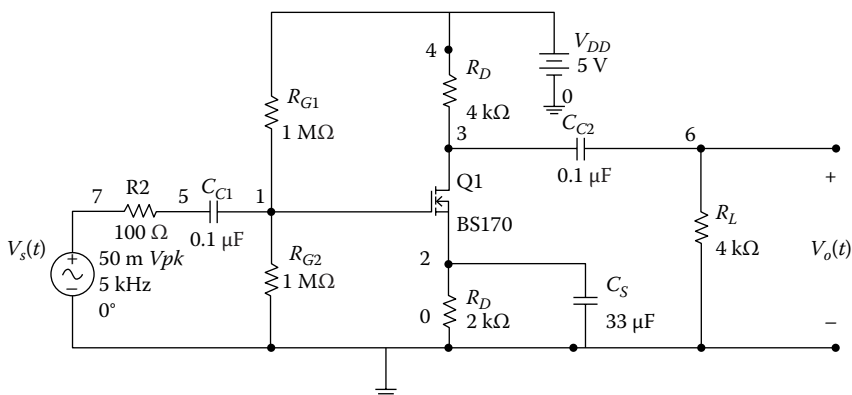

FIGURE 7.40
Use the Analog Discovery board to determine (1) the magnitude response of the circuit shown in Figure 7.40, (2) midband gain, (3) low cut-off frequency, (4) high cut-off frequency, and (5) bandwidth of the amplifier.
Use a breadboard to build the circuit shown in Figure 7.40. Connect the AWG1 (yellow wire) to node 7 of the circuit. Also, connect the scope channel 1 positive (orange wire) to node 7. In addition, connect the scope channel 1 negative (orange-white wire) to node 0. Furthermore, connect the scope channel 2 positive (blue wire) to node 6, and the scope channel 2 negative (blue-white wire) to node 0. Moreover, connect the ground (black wire) to node 0 of the circuit. For the transistor BS170, connect the gate of the transistor to node 1, the drain to node 3, and the source to node 2. In addition, connect +5 V dc power supply (red wire) to node 4.
Magnitude and phase characteristics of the amplifier shown in Figure 7.40.